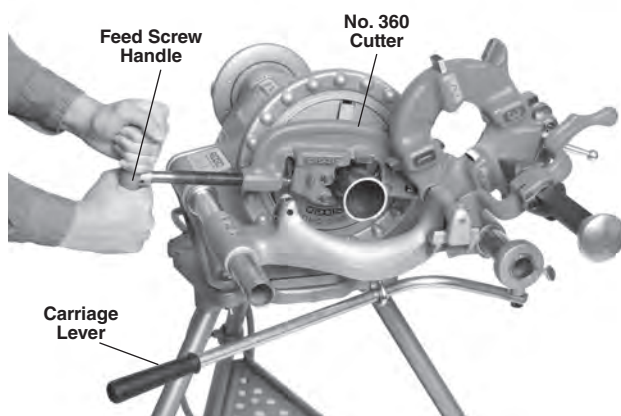

Figure 21 – Cutting with No. 360 Cutter
4. With both hands, grasp the pipe cutter feed handle (Figure 21).